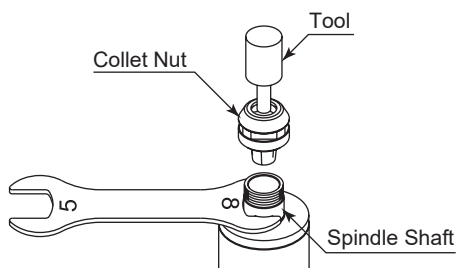

Fig. 8
- (1) Remove the tool according to the section 8. "CHANGING THE TOOL" procedure above and remove collet nut assembly (Fig. 8).